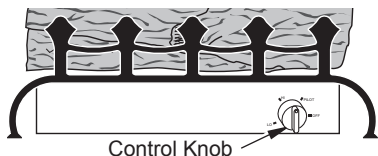

Figure 21 - Control Knob and Ignitor Button Location
- Press in control knob and turn counterclockwise  to the PILOT position (see Figure 21). The ignitor will spark once. Keep control knob pressed in for 5 seconds. If control knob does not pop up when released, contact a qualified service person or gas supplier for repairs.